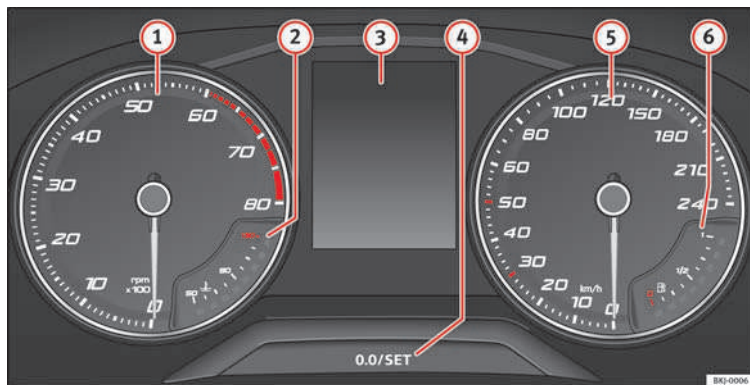

Fig. 106 Instrument panel, on dash panel.
The rev counter indicates the number of engine revolutions per minute » **Fig. 106 ①**.
Never allow the rev counter needle ① » **Fig. 106** to go into the red zone on the scale for more than a very brief period, otherwise there is a risk of engine damage.
A variety of information can be viewed on the instrument panel display » **Fig. 106 ③** depending on the vehicle equipment:
- Briefly press the button » **Fig. 106 ④** to reset the trip recorder to 0.
- Keep the button ④ pressed for about 3 seconds and the previous value will be displayed.
- To set the time, keep the button » **Fig. 106 ④** pressed for more than 3 seconds to select the hour or minute display.
- To continue setting the time, press button ④. Hold button down to scroll through the numbers quickly.
- Press the button ④ again in order to finish setting the time.
Hold the button » **Fig. 106**  down for more than 15 seconds to display the identifying letters of the vehicle engine (MKB). To do this, the ignition must be switched on and the engine switched off.
» **Fig. 106** only works when the ignition is switched on. In order to avoid engine damage, please read the following notes for the different temperature ranges.